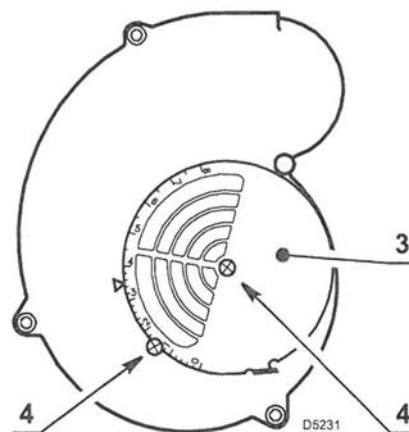

Fig. 6
To regulate the combustion air, adjust the manual air gate (3)(Fig. 6), by loosening the locking screws (4).